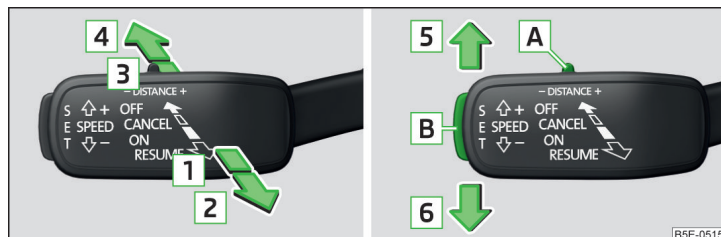

Fig. 224 Operating lever
Overview of ACC functions operated with the lever » Fig. 224
- Press the button **SET** » Fig. 224 on page 187.
- **or:** Set the lever into the sprung position **RESUME** » Fig. 224 on page 187.
- Set the lever into the sprung position **CANCEL** » Fig. 224 on page 187.
The desired speed can be set or changed using the control lever » Fig. 224 on page 187.
- › Set the switch **DISTANCE** Adjust in the spring-tensioned position – or + » Fig. 224 on page 187.
Acceleration can be cancelled at any time by touch on the brake pedal or pressing the button **CANCEL** on the lever » Fig. 224 on page 187.